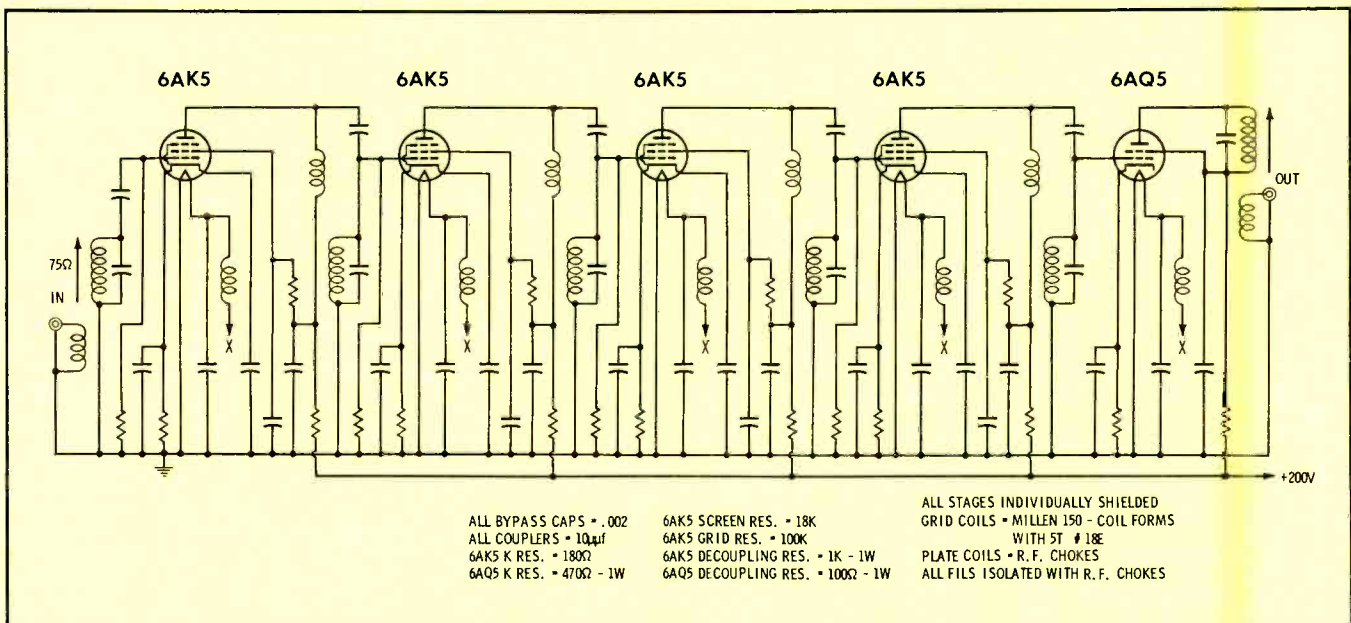

Fig. 13. Booster used to operate frequency-and-modulation monitor must be capable of furnishing several watts of RF power.
2. Move the monitors to the control point and feed them RF from a pickup antenna and RF amplifier (such as was shown in Fig. 13).